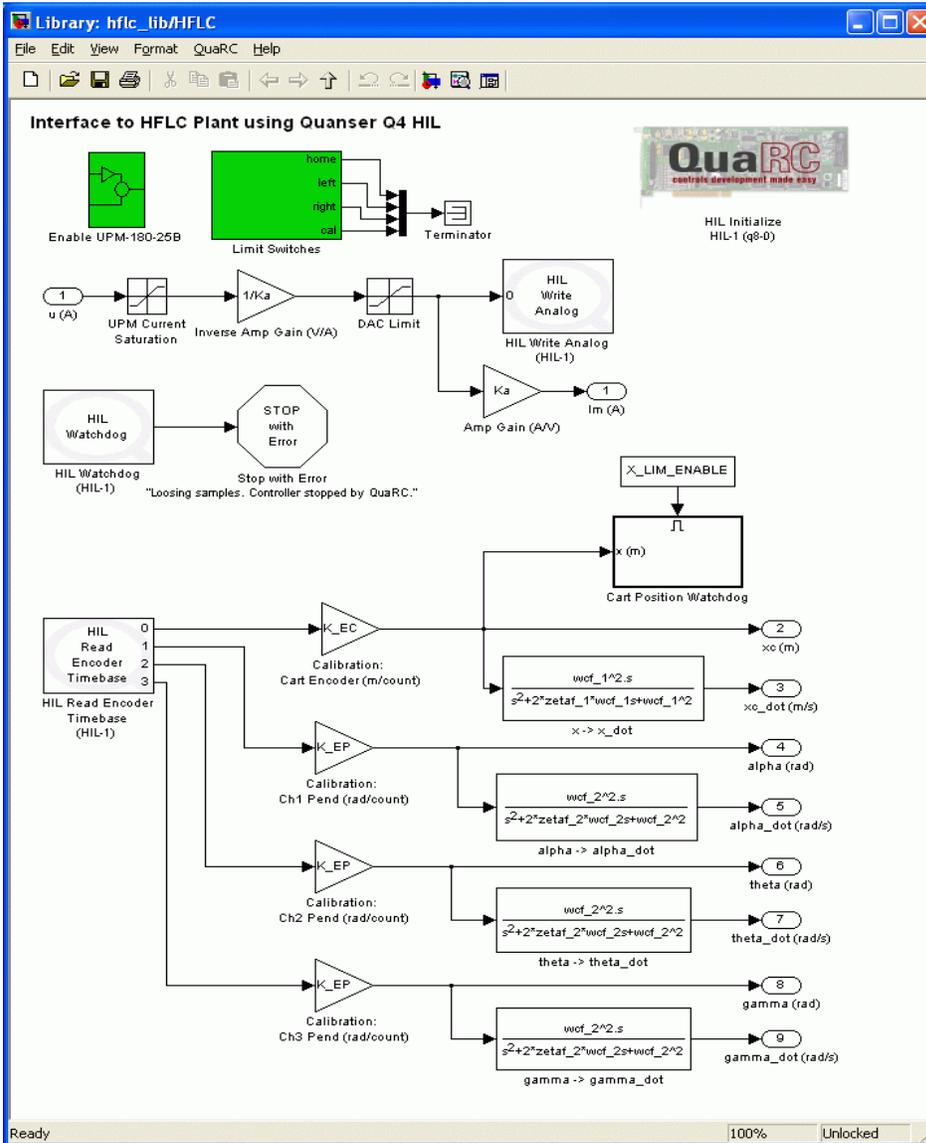
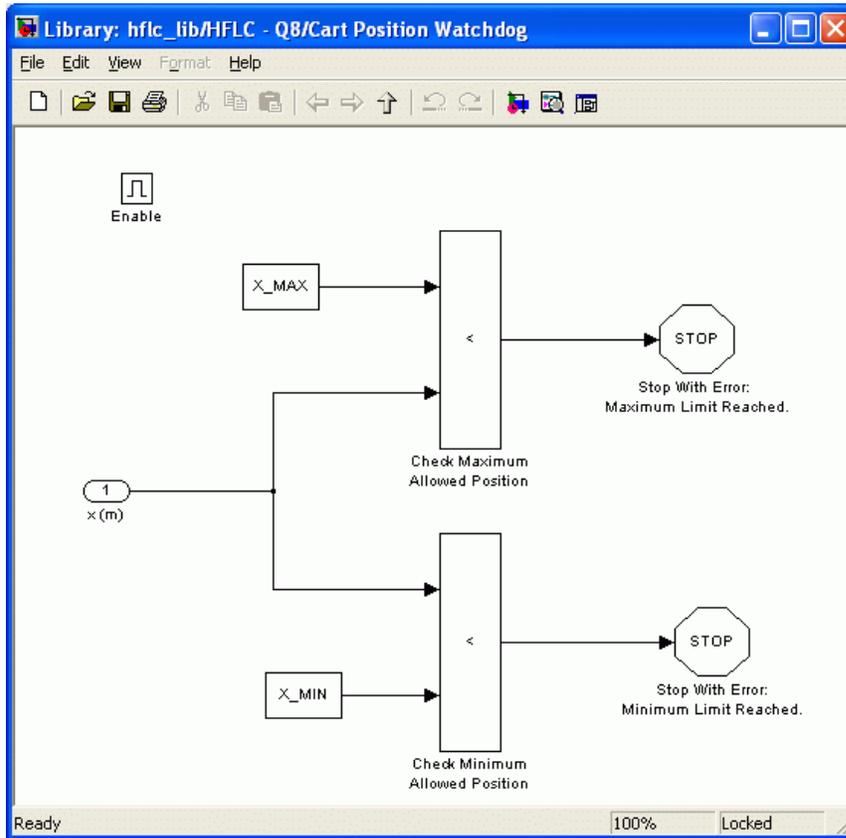

Figure 18 Interface subsystem to the actual HFLC plant.
Figure 21 Cart position watchdog.
The interior of the *HFLC* subsystem is given in Figure 18. This subsystem is standard and is used in all the experiments listed in Table 1. The details of driving the HFLC motor is described in Section 7.1.2. Section 7.1.3 summarizes the calibration gains used to calculate
The values fed to the input terminal of the *HIL Write Analog QuaRC* block shown in Figure 18 are outputted by the Analog Output channel on the DAQ board which is then fed to the power amplifier to drive the motor. The Simulink source node labeled $u(A)$ is the control input to the HFLC. When facing the front of the HFLC, as shown in Figure 1, the cart
where K_a is the amplifier gain, u is the control input, and $IMAX_UPM$ is the maximum continuous current deliverable by the power amplifier or the maximum rated peak current of the HFLC motor, as defined in Table 4. By default $IMAX_UPM$ is set to 15.0 A which is just below the maximum peak current of the HFLC motor, 15.6 A. With this imposed limitation, the control input is saturated at ± 15.0 A (and not by the data-acquisition board). The Im (A) output node shown in Figure 18 is used to read the current running in the HFLC motor.
The *HIL Read Encoder Timebase* block in Figure 18 outputs the number of counts measured by the encoders connected to the Encoder Input channels 0-3 on the DAQ board. The positive cart direction is defined when the cart moves towards the right when facing the front of the HFLC cart, as shown in Figure 1. This is achieved by having a negative sign in the cart encoder sensitivity constant, K_EC , defined in Table 4. In quadrature mode, the encoder mounted on the HFLC motor outputs 8192 counts per revolution. Therefore the sensor gain used to obtain the linear position of the cart is
The *Cart Position Watchdog* block shown in Figure 18 stops the real-time controller when the measured cart position goes beyond the variables `X_MIN` and `X_MAX` from its starting position. As shown in Figure 21, this is implemented in the *Cart Position Watchdog* block using *Relational Operators* and *Stop With Error* blocks. The `X_MIN` and `X_MAX` variables are specified in the corresponding laboratory Matlab setup file. Further, the safety limit can be enabled/disabled using the `X_LIM_ENABLE` variable.
The *Enable UPM-180-25B* subsystem is also contained in the *HFLC* block, as shown in Figure 18. This block is required to enable the power amplifier in order to drive the HFLC motor and therefore perform experiments. The amplifier is therefore not enabled unless QuaRC is running a controller that was built from a Simulink model that included this block. See Reference [3] for details on enabling the UPM-180-25B device.